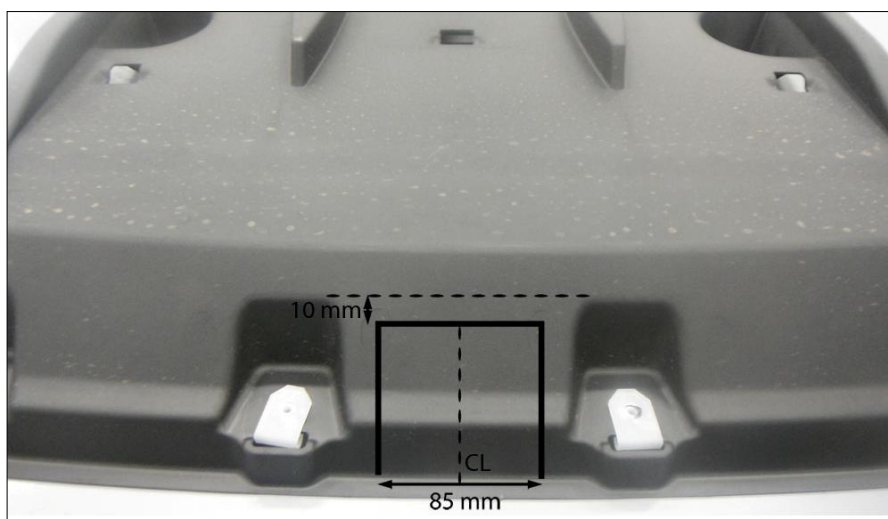

Figure 3 - Undercover cut
- 3 Remove & discard the impact beam. NOTE: Please retain the nuts shown in figure 3 used to mount the impact beam as they are to be used to fit the Rear Panel bracket as shown in drawing of Towbar.
- 14 If fitted, trim the undercover as per figure 3.